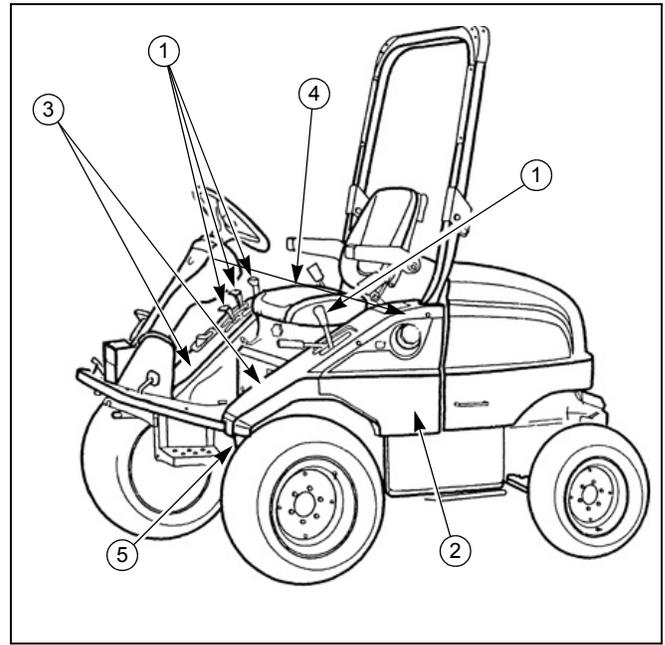

Figure 2-9
2. Remove the various control handle grips ①, side cover ②, and fenders ③ and ④. Figure 2-9
3. Drain the hydraulic fluid from the axle assembly via the drain plug ⑤ located at the front center bottom of the front axle housing. Figure 2-9